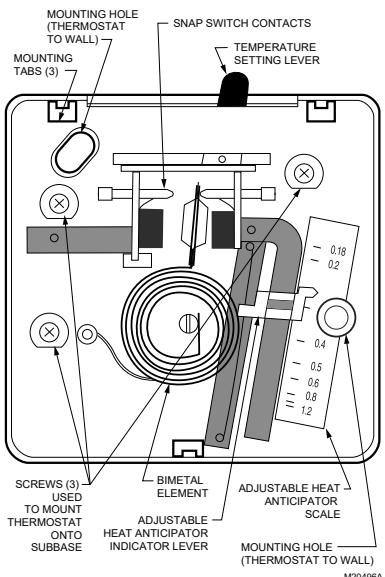

Fig. 1. Internal view of T812 with adjustable heat anticipator.
- Disconnect thermostat from subbase by unscrewing the three screws under the thermostat cover. See Fig. 1.
- Mount the thermostat to the thermostat subbase by tightening the three screws. See Fig. 1.